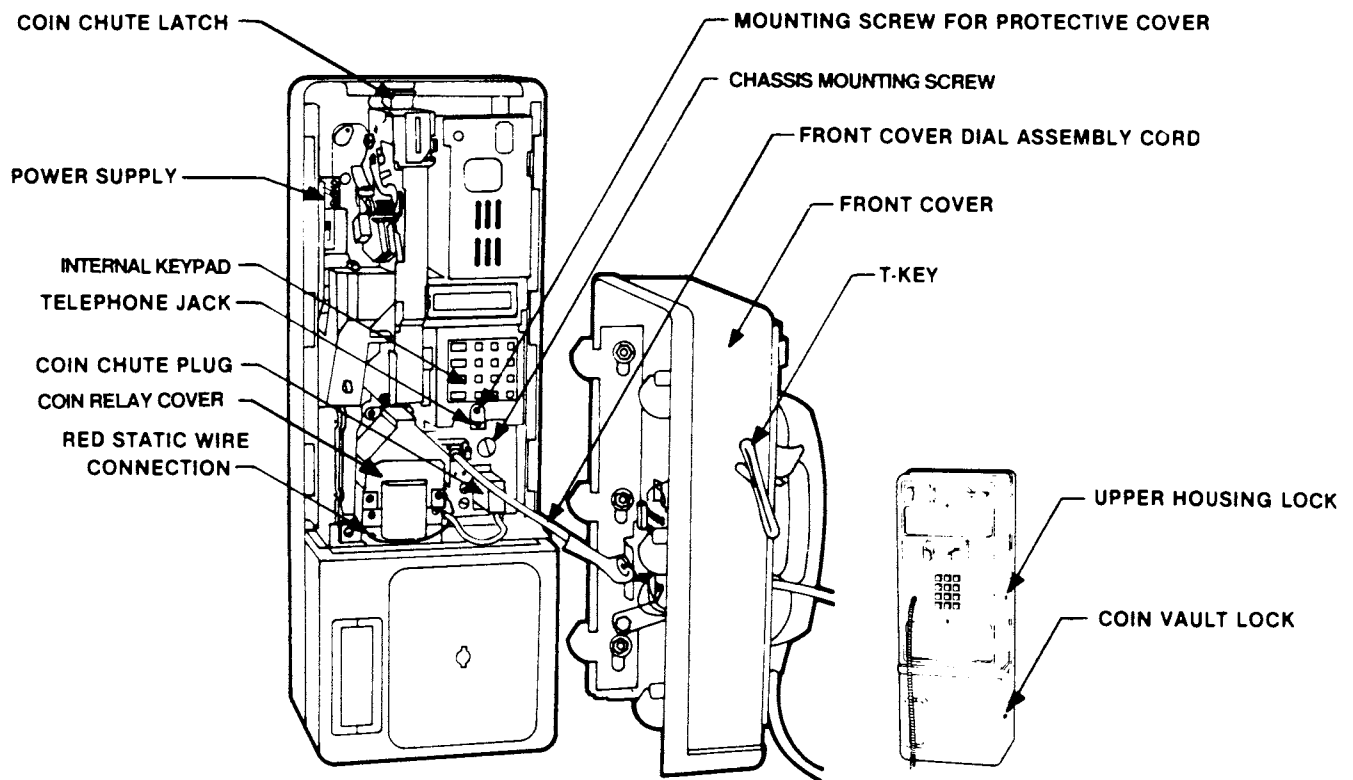

Figure 8 Pay Phone Components
Before attempting to mount your AT&T Private Pay Phone *Plus*, familiarize yourself with the phone parts illustrated in Figure 8 below.
- Refer to Figure 8.
- Plug the end of the telephone line cord inside the base housing into the modular telephone jack located below the internal keypad. (Note: Make sure the modular line cord is placed so that the coin chute will fit back into place.) Refer to Figure 8.